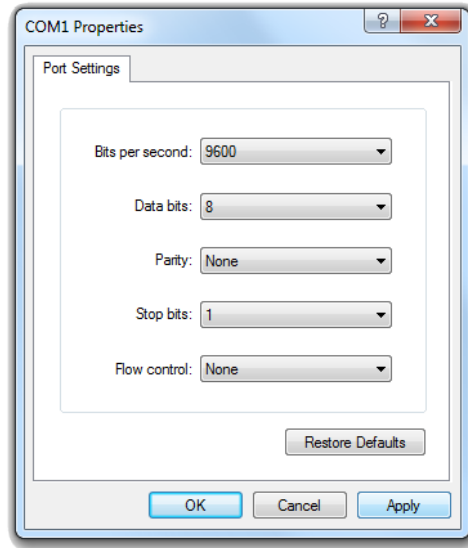

Figure 13: Connection Properties.
5. In the port property sheet that appears, choose a port speed. (bits per second) For the AOC lasers please use Baud Rate = 9600, Data Bits = 8, Parity = None, Stop Bit = 1 and Flow Control = None. Please see Figure 13.